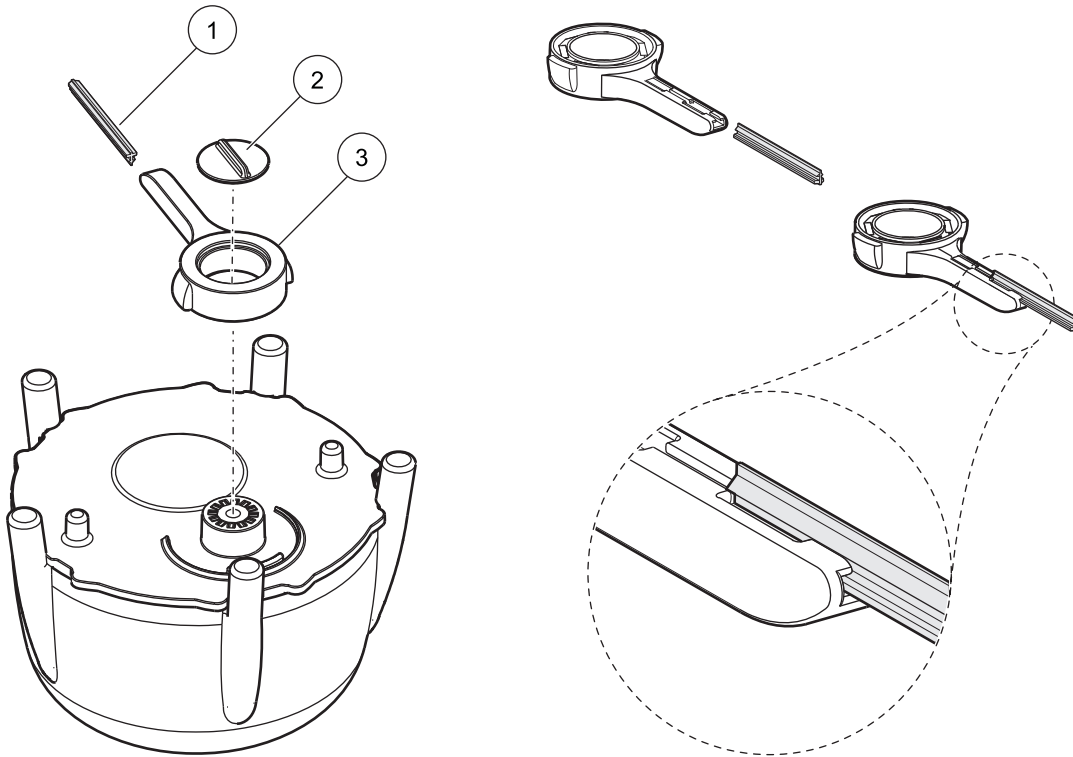

Figure 12 Wiper unit
The wiper arm (refer to item 3 in Figure 12) moves for the wiper change into a central position.
2. Remove the guide screw (refer to item 2 in Figure 12) and take off the wiper arm.
3. Pull the wiper profile (refer to item 1 in Figure 12) forward out of the wiper arm.